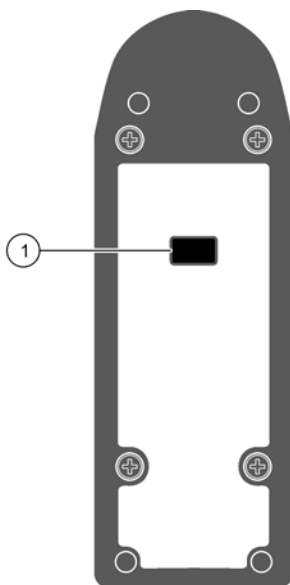

Figure 6 MP meter—bottom view
The MP-Dock accessory package (HMPDOCK) allows the user to download stored test data to a PC or spreadsheet. The MP-Dock receives power through the USB port, and requires no external power source. The data is transferred through the Infrared (IR) data port on the bottom of the MP meter (Figure 6) to the MP-Dock, and then to the PC.